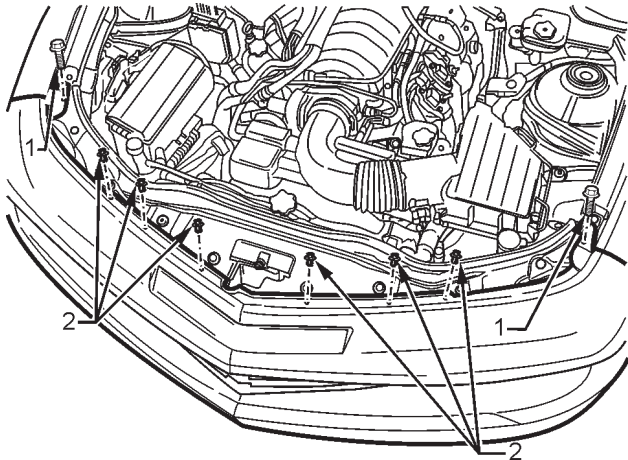

FIGURE 41
19. From under the hood, remove the two bolts (1) at each end of the fascia and the six scrivenets (2) along the top edge of the fascia. Refer to figure 41.